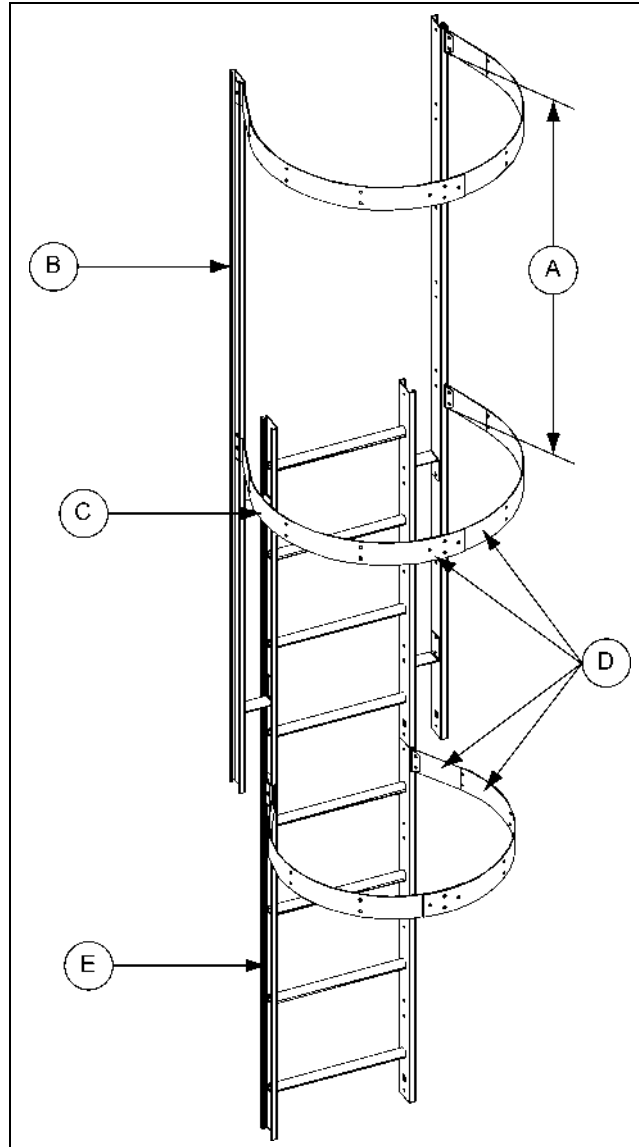

Figure 9C
To complete the safety cage hoop installation, some pre-assembly is required. Attach four (4) safety cage brackets to the extension rails and two (2) safety cage brackets to the second 4' ladder section as shown in Figure 9C. See cage hoop bracket detail on Page 51 for proper installation. Next, bolt each set of safety cage hoop halves together using 5/16" x 1" bolts with the head of the bolt to the inside of the safety cage. You may now bolt these assemblies to the safety cage brackets. Tighten bolts as you go.
Attach the vertical supports to the hoop half assembly from the final safety cage installation using 5/16" x 1" bolts and nuts with the head of the bolt to the inside of the safety cage. Assemble the special bell hoop halves and attach to the other end of the vertical supports. The vertical supports must be bent at the flat area to allow for the angle of the bell section. Attach the safety cage brackets to the ladder as shown *in Figure 9C on Page 50*. Once the safety cage brackets are installed, attach the bell safety cage hoop half assembly to the safety cage brackets. Tighten bolts as you go.